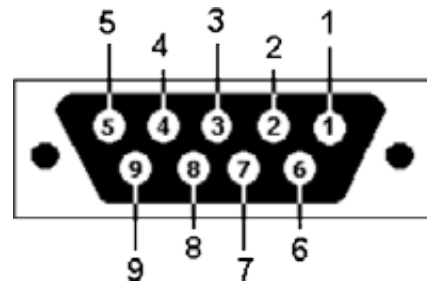

Figure 6-20. MRU External Alarms Connector Pin Out
1. Connect the external alarms cable (ordered separately) to the chassis’s DB9 “External Alarms” connector. Refer to Table 6-5 and to Figure 6-20 for pin out information.